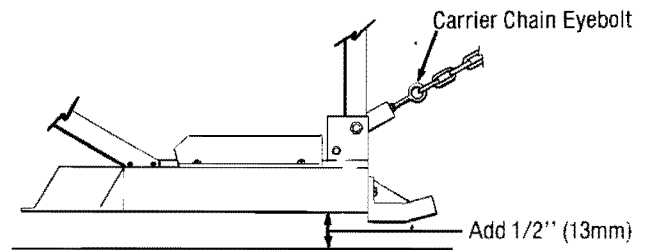

Figure 6 Setting Height at Front of Deck
7. Measure the distance from the bottom edge of the mower deck to the ground at each front corner of the deck (see Fig. 6). Adjust the position of the jam nuts on the eyebolts until the measured distance to the ground, plus 1/2 inch (13mm), is the desired cutting height.